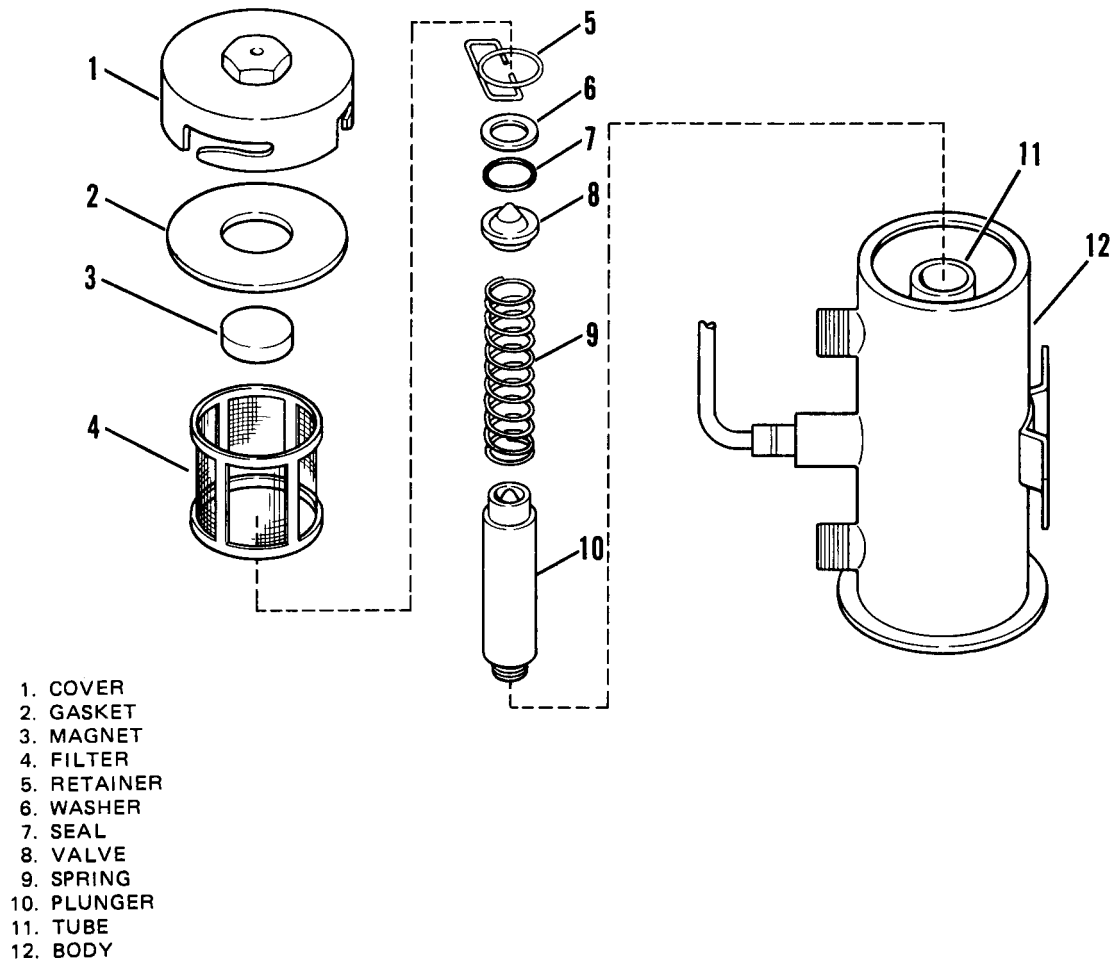

Figure 4-24. Auxiliary Fuel Pump, Exploded View.
- (1) Disassembly.
- (a) With a wrench, release bottom cover (1, Figure 4-24) from bayonet fittings. Twist cover by hand to remove from pump body.
- (b) Remove filter (4) magnet (3) and cover gasket (2). Wash filter in cleaning solvent and blow out dirt and cleaning solvent with air pressure. Check cover gasket and replace if deteriorated. Clean cover.
- (c) Remove retainer spring (5) from plunger tube (11) using thin nose pliers to spread and remove ends of retainer from tube. Then remove washer (6), O-ring seal (7), cup valve (8), plunger spring (9) and plunger (10) from tube (11). Do not disassemble plunger (10).